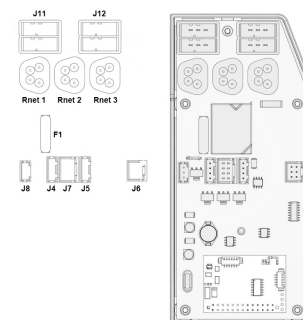

Figure 491. ICS master module.
4. Disconnect the electrical connections of the ICS master module, being attentive to their placement. See fig. 491.
6. If the wheelchair is equipped with lights, remove the lid from the ICS master module and disconnect the lights cabling from the contacts on the circuit board. See fig. 491.